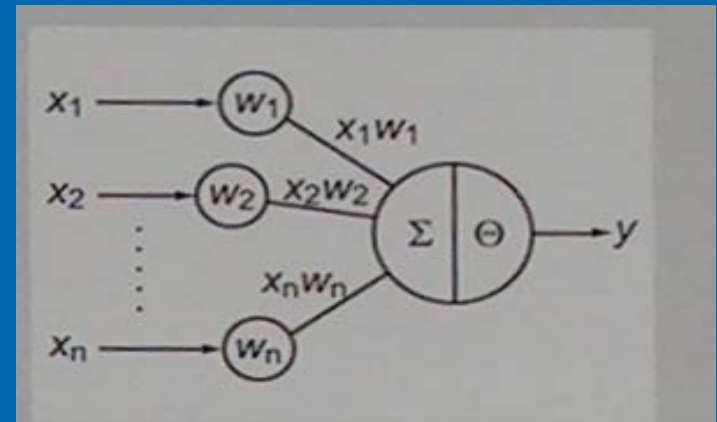

Figure 5: Threshold gate with binary inputs x_1, x_2, \dots, x_n , the weights w_1, w_2, \dots, w_n , the weighted sum χ and the threshold value Θ .
- f is determined by weights w_1, w_2, \dots, w_n and the threshold value Θ , (fig 5)